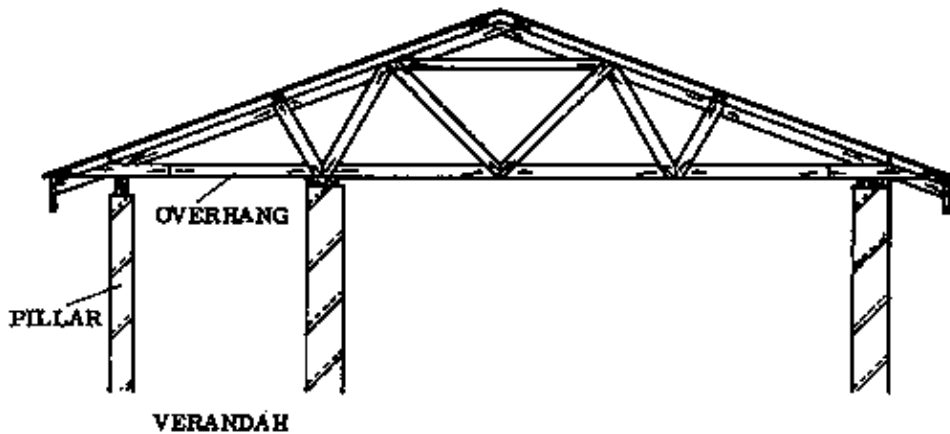

Fig. 1 EXTENDING THE TIE BEAMS
- By extending the tie beams to cover the verandah (Fig. 1)
– EXTENDING THE TIE BEAMS: The part of the tie beam that covers the verandah is called the overhang (Fig. 1). For a small overhang, supporting pillars are not necessary, but it should be braced very well. If the overhang is wide, then pillars are needed to support it (Fig. 1).